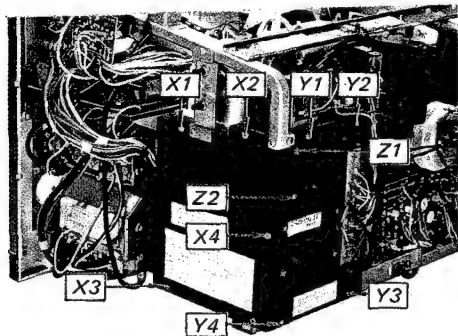

Fig. 2-32.
6. Remove the four screws labeled X1~4 in Fig. 2-32.
9. Remove the four screws labeled Y1~4 in Fig. 2-32.
11. Replace the horizontal output transformer by removing the two screws labeled Z1~2 in Fig. 2-32.